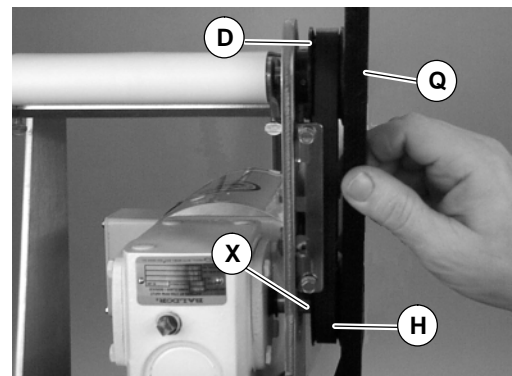

Figure 31
9. Using a straight edge (Q of Figure 31), align drive pulley (H) with driven pulley (D). Tighten drive pulley set screws (X).